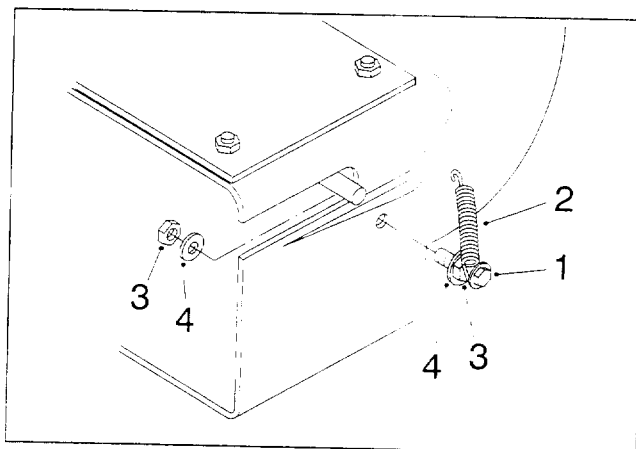

Figure 4
4. Insert a #10 x 3/4" screw through the extended loop at the end of the tension spring (Fig. 4). Screw one #10 nut to within 1/8 inch (3.2 mm) from the screw head, allowing the spring to pivot freely (Fig. 4).
5. Slide one 7/32" flat washer onto the spring and screw assembly (Fig. 4). Insert the screw through
the hole in the blower housing from the outside and secure in place with another flat washer and nut (Fig. 4). Tighten the nut.